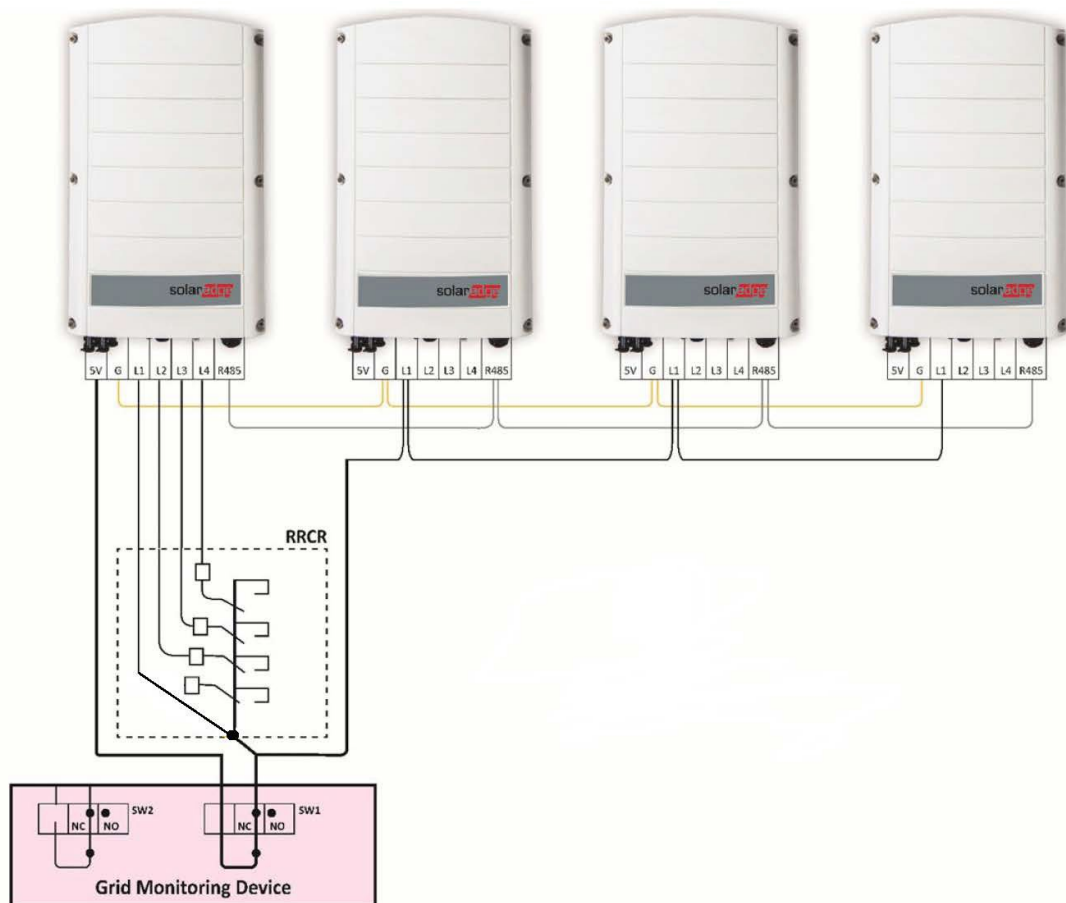

Figure 4: Multiple Inverter System, with RRCR
- Updated Figure 4 and Figure 6.
- **Version 1.4, March 2019** - modified figures 4 and 6 (replaced Secondary Protection Device to Grid Monitoring Device and deleted K1, K2 and K3)